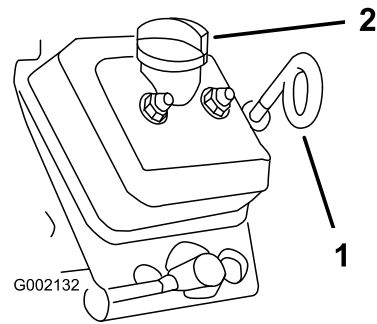

Figure 44
- Clean around the oil dipstick, fill cap, and filler neck, and remove the dipstick (Figure 44).
- Remove the fill cap and pour the specified oil into the into the filler neck until the oil level is up to the Full mark on the dipstick (Figure 44).
- Insert the dip stick fully into the dipstick tube, remove the dipstick, and check the oil level (Figure 44).
- Install the dipstick into the dipstick tube and the fill cap into the filler neck until the dipstick and cap are firmly in place (Figure 44).